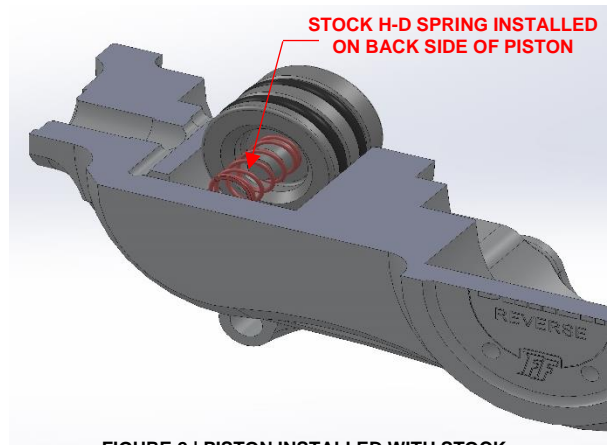

FIGURE 2 | PISTON INSTALLED WITH STOCK H-D SPRING | SECTION VIEW SHOWN
**** - Use Stock H-D spring; must remove spring from factory piston / side cover to use with BAKER F6R Hydraulic Piston (PN 128-6L). Install as shown in instructions / Figure 2.
Carefully install the piston back into the side cover bore by sliding it down into position. Figure 2 Sectioned View